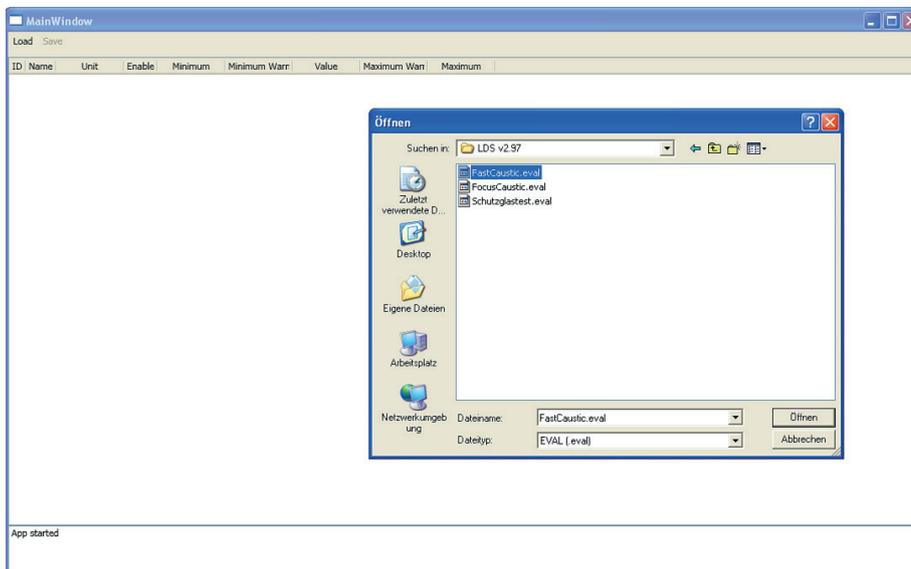

Fig. 19.30: File *FastCaustic.eval*
5. Load the file **FastCaustic.eval** as shown in Fig. 19.30.